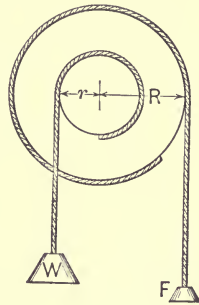

FIG. 5.
The wheel and axle, Fig. 5, is a modified lever. It consists of a wheel and axle rigidly fastened together to turn about a common axis. It is evident that the radius of the axle (r), is the weight arm, and the radius of the wheel, R , is the force arm. The wheel may be replaced by a crank, as in the windlass.
8. In Fig. 5 r is 4 inches and R is 12 inches and there is no friction, What force will be required to balance 600 lb. at W ? If $\frac{1}{4}$ of the work done on the machine is lost in friction, how much weight will this same force lift? In the second case what is the efficiency?